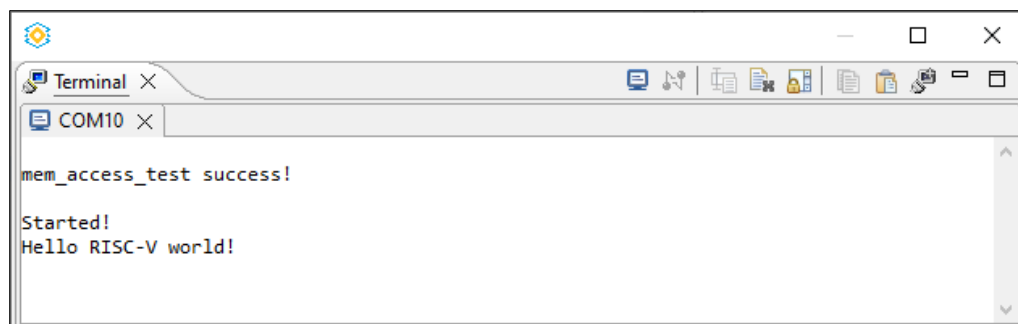
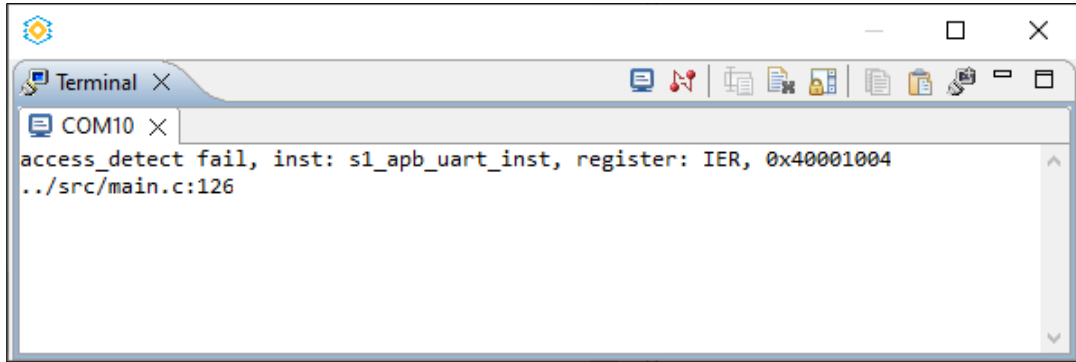

Figure F.6. Success Log
Figure F.7. Failure Log
4. A success log (Figure F.6) or failure log (Figure F.7) is shown.